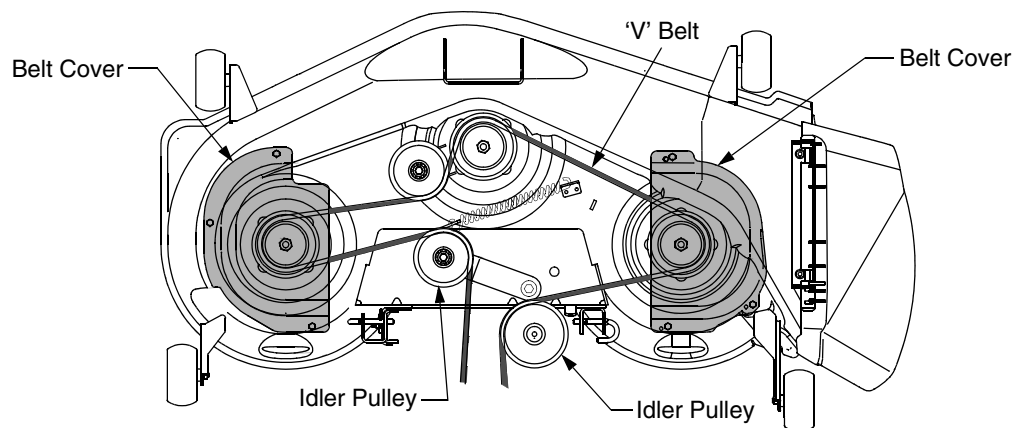

Figure 35
- Remove the hex tapping screws securing the belt covers to the deck and remove the belt from the spindle pulleys. Refer to Figure 35.
- Install the new belt around the spindle pulleys as shown in Figure 35 and reinstall the belt covers.